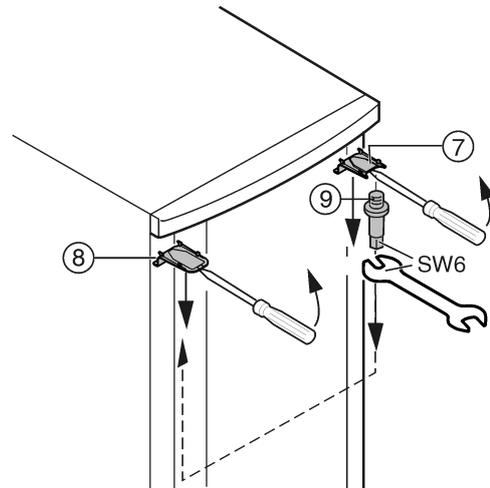

Fig. 7
- ▶ At the top, use a screwdriver to unclip cover *Fig. 7 (7)* and cover *Fig. 7 (8)* at the front, and remove by pulling out and down.
- ▶ Unscrew the bearing pin *Fig. 7 (9)* and screw it firmly into place on the opposite side (**with 4 Nm**).
- ▶ Refit the cover *Fig. 7 (7)* on the side of the bearing pin: insert at the back, snap in at the front.
- ▶ Fit the cover *Fig. 7 (8)* on the opposite side: insert at the back, snap in at the front.
- ▶ Hang the door on the bearing pin Fig. 7 (9) at the top.